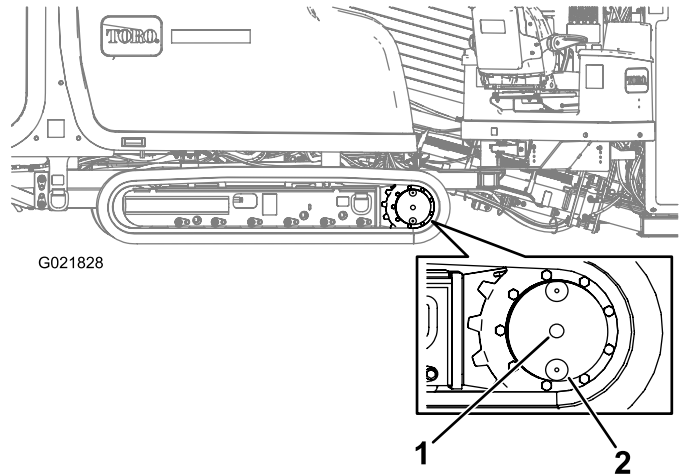

Figure 95
2. Clean the area around the oil-level plug with a cleaning solvent (Figure 95).
3. Rotate the planetary drive until the oil level and the oil-drain plugs are vertical to the ground (at the 6 o'clock position) as shown in Figure 95.
4. Remove the oil-level plug (Figure 95).
2. Clean the area around the oil-level plug (Figure 95).
3. Rotate the planetary drive until the oil-drain plug is directly below the oil-level plug (Figure 95).